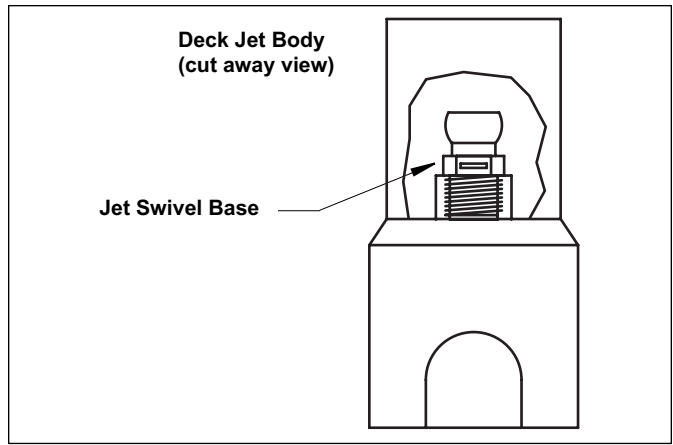

Figure 5. Jet Swivel Base Installation
- Wrap teflon tape around the Jet Swivel Base threads and install into the Deck Jet Body, using a 7/8", box-end wrench. Tighten the Jet Swivel Base until it is fully seated (see Figure 5).